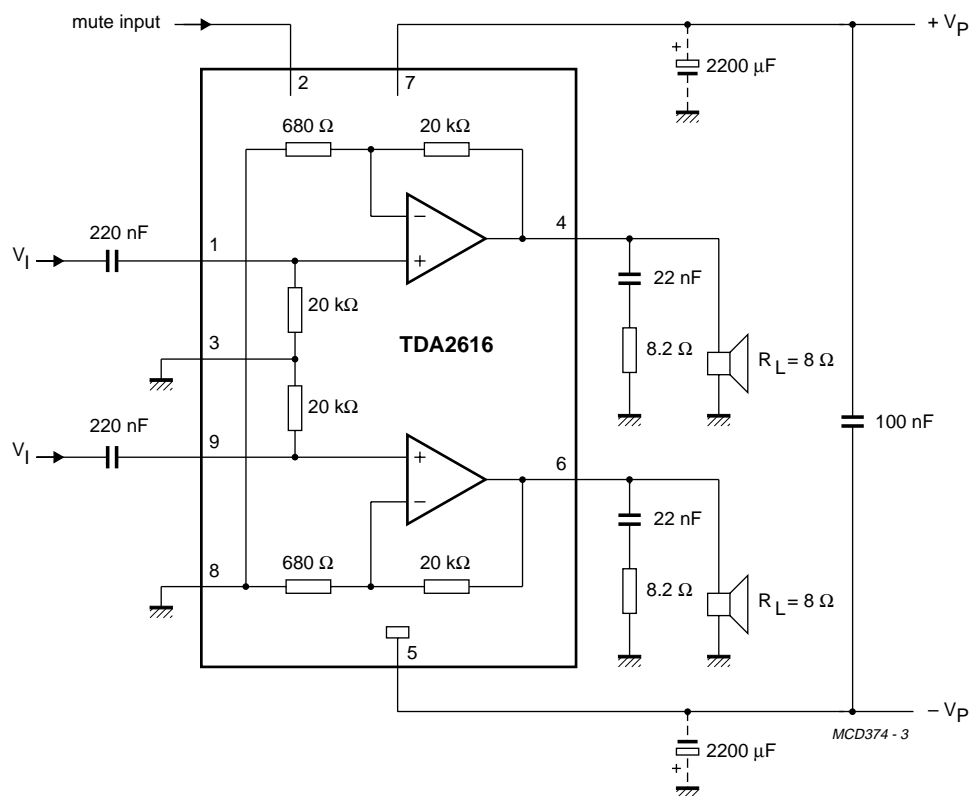

Fig.4 Test and application circuit with symmetrical power supply.
1. $V_{\text{P}} = \pm 16 \text{ V}$; $R_{\text{L}} = 8 \Omega$; $T_{\text{amb}} = 25 \text{ }^\circ\text{C}$; $f = 1 \text{ kHz}$; symmetrical power supply $I_{\text{MUTE}} < 30 \mu\text{A}$. See Fig.4
5. $\pm V_{\text{P}} = 4 \text{ V}$; $R_{\text{L}} = 8 \Omega$; $T_{\text{amb}} = 25 \text{ }^\circ\text{C}$; $f = 1 \text{ kHz}$; symmetrical power supply. See Fig.4